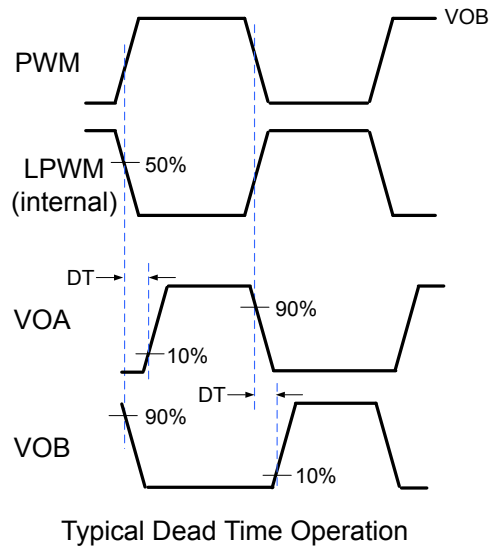

Figure 2.20. Dead-Time Waveforms for Si8274x Drivers
All high-side/low-side drivers with a single PWM input (Si8274x) include programmable dead time, which adds a user-programmable delay between transitions of VOA and VOB. When enabled, dead time is present on all transitions. The amount of dead time delay (DT) is programmed by a single resistor (RDT) connected from the DT input to ground per the equation below. Note that the dead time pin should be connected to GNDI through a resistor between the values of 6 kΩ and 100 kΩ. A filter capacitor of 100 pF in parallel with RDT is recommended. See Figure 2.20 on page 18 below.